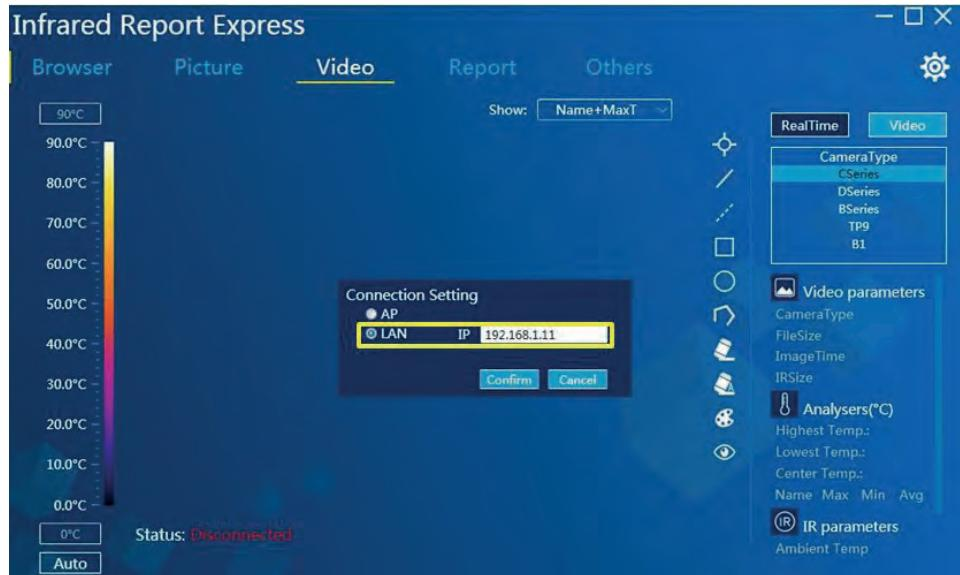

Figure 3-36
3. Utilize the network cable equipment to connect the PC reliably and click the device LAN shortcut **LAN** to open the network connection function of the device. Open the infrared analysis software to select “CSeries” in the model selection area, select “LAN” in the “Connection Settings” pop-up dialog box and input the device IP. See Figure 3-36: